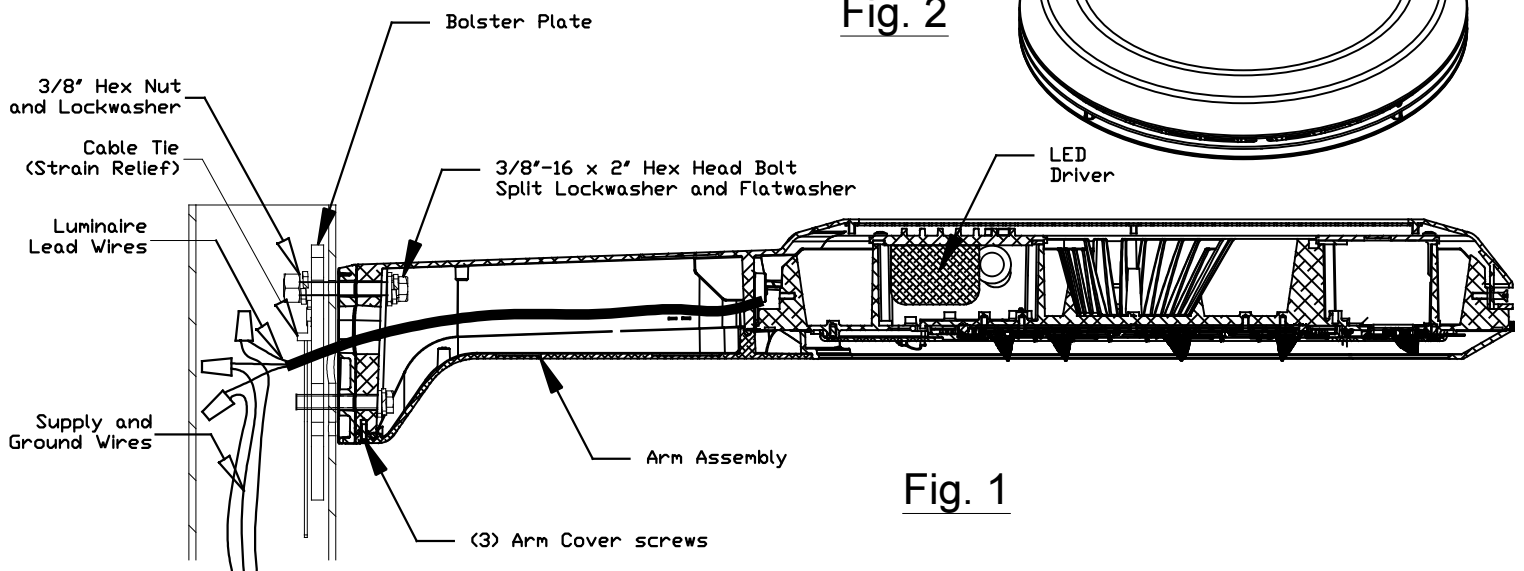

Fig. 1
1. Located on the bottom of the arm assembly, loosen (3) # 6-32 phillips screws using phillips head screw driver. Open arm cover. (See Fig. 1)